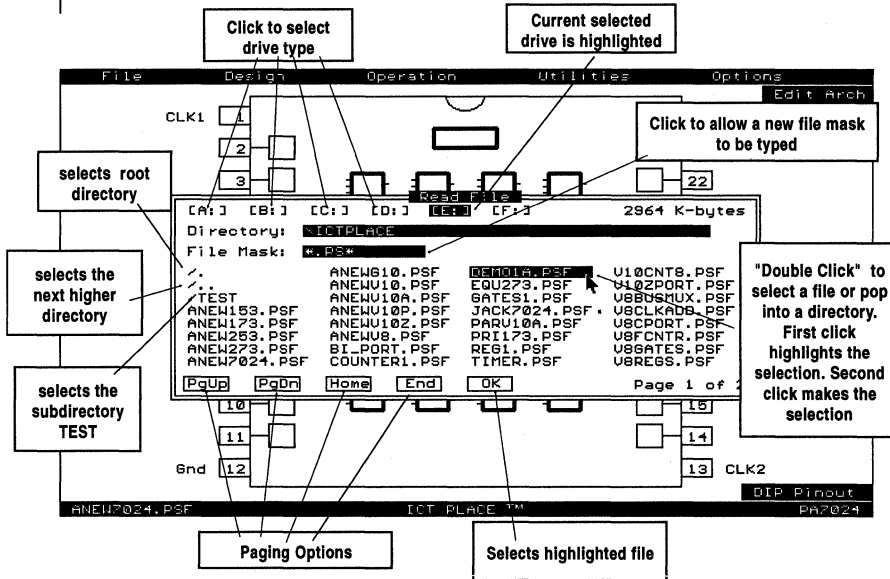

Figure 10-2, "Read" file selection screen
When selected, the File selection window will appear (Figure 10-2):
- SaveAs** Allows a new file to be saved to the current directory and disk. Click an existing file to over-write or click [New] selector to enter a new file name (the "SaveAs" file selection screen is similar to that of the "Read" screen in Figure 10-2 with the exception of the [New] function).